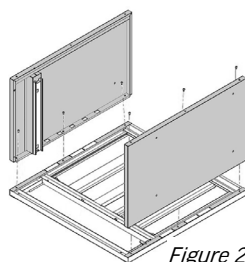

Figure 2.
2. Install the left side panel (#2) and right-side panel (#4) onto the front panel (#1) with M4 x 10 screws (#3). Position the front panel so the drawer opening is nearest to you. The slides are on the inner side (Fig. 2).